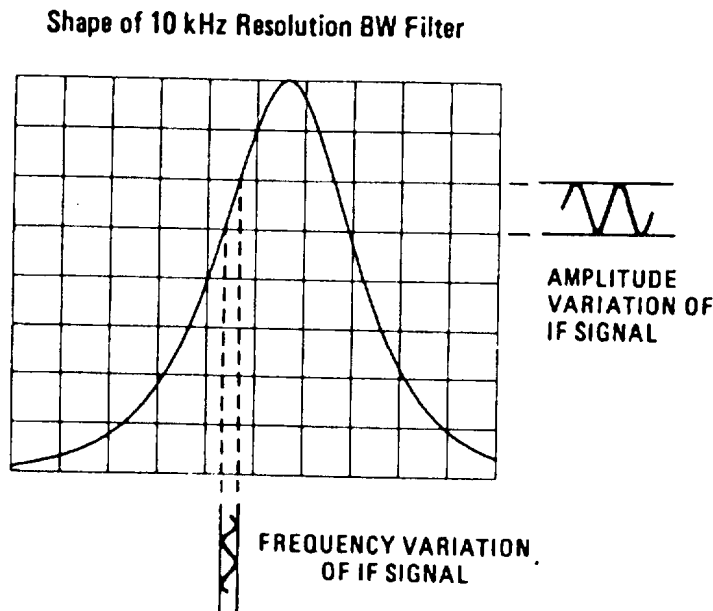

Figure 15. Residual FM.
(3) Adjust **TUNING** control to center 500 MHz signal on crt and press **FREQUENCY CAL** pushbutton.
(4) Position signal peak at top crt horizontal line (fig. 15) with **REFERENCE LEVEL** switch and **REF LEVEL FINE** control.
(5) Maintain signal center on crt with **TUNING** control while reducing **FREQ SPAN/ DIV** switch to **0**.
(6) Set **RESOLUTION BW** switch to **10 kHz** and **SWEEP TIME/DIV** switch to **.1s**.
(7) Slightly adjust **TUNING FINE** control until trace appears between 4th and 7th vertical graticule from graticule baseline. Peak-to-peak variation of trace will not exceed one major vertical division for each major horizontal division.